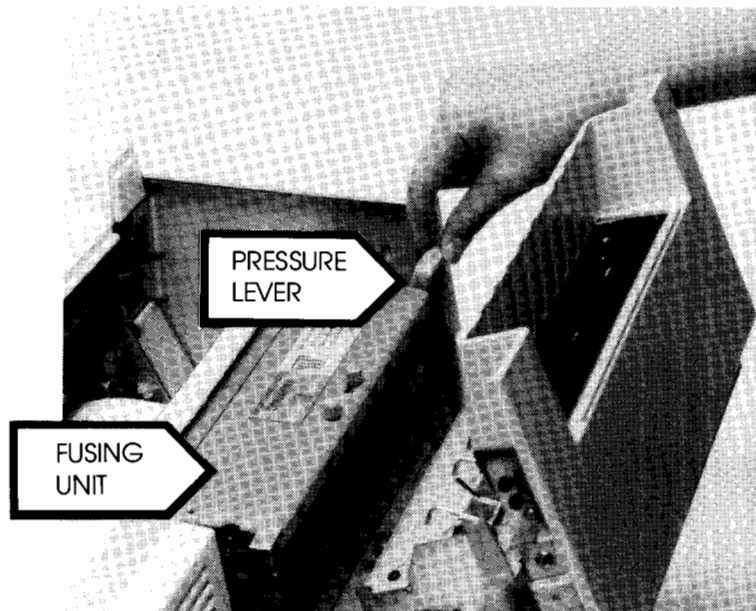

Figure 5-13. Releasing Fuser Unit Pressure
- d. Release the pressure in the fusing unit by pushing the pressure lever of the fusing unit in the direction shown by the arrow (figure 5-13).